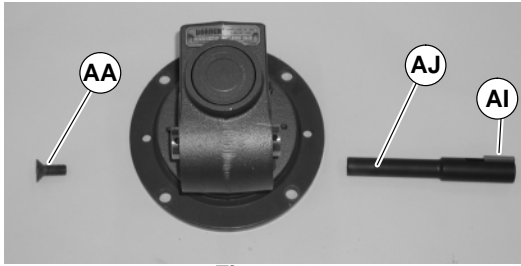

Figure 20
7. Remove two (2) screws (AG) and detach output shaft cover (AH).
8. Remove M10 shaft locking screw (AA of Figure 20), remove gear reducer output shaft (AJ) and key (AI).
NOTE: Output shaft (AJ of Figure 20) is held in Gear Reducer with a tapered press fit. Removal may require use of an arbor press.
9. Insert the new shaft with key (AI of Figure 20) into new gear reducer. Tighten M10 shaft locking screw (AK) to 300 in-lbs (34 N-m).